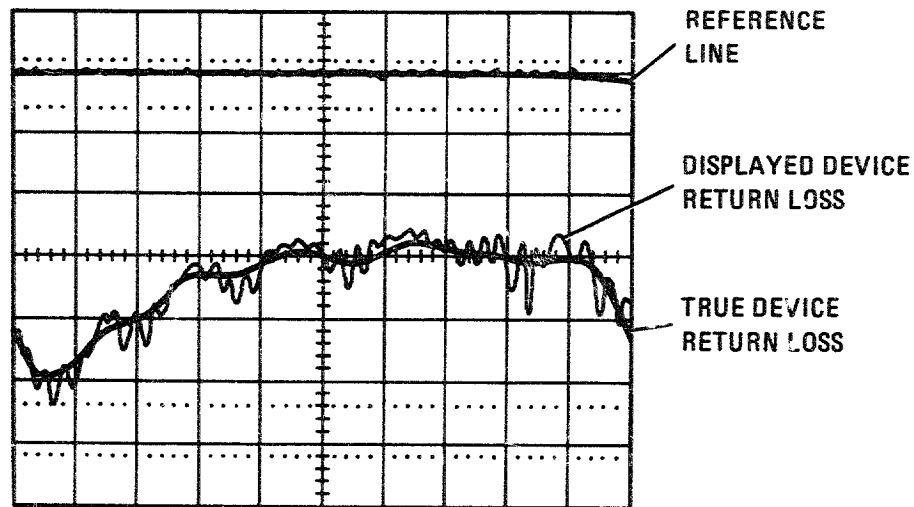

Figure 4-2. Return Loss Measurement Using Air Line Technique
8. Turn CHANNEL 1 REFERENCE LEVEL VERNIER to ON and adjust the vernier to place the trace on the first graticule below the top of the display. See Figure 4-2.
12. The reference line is the average of the ripples on the trace. (See Figure 4-2.) With a black grease pencil, draw the reference line on the CRT display. The 20 cm airline allows the open-short reference line to be determined without actually using an open. At every quarter wavelength on a transmission line a short is seen as an open.
14. Return loss is the difference between the reference line and the response of the detector under test. Again, the airline will be responsible for the ripple in the trace. The true response of the detector is the average of the ripples (see Figure 4-2). Check the results against the specifications listed at the beginning of paragraph 4-4.
24. Turn CHANNEL 1 REFERENCE LEVEL VERNIER to ON and adjust trace to the first graticule below the top line. Draw this reference line on the CRT with a grease pencil. See Figure 4-2.
27. Read the return loss as the difference between the true reference line and the response of the LOAD detector. See Figure 4-2. Check the results against the specifications listed at the beginning of Paragraph 4-4.